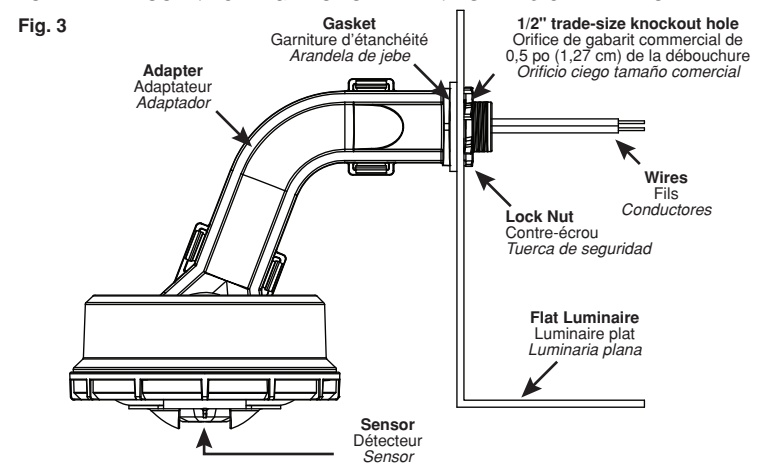

Fig. 3
5. Slide the lock-nut over the wires and thread clockwise on to the threaded nipple to secure the sensor firmly in place making sure the lens is orientated towards the area to be monitored (refer to Figure 3).